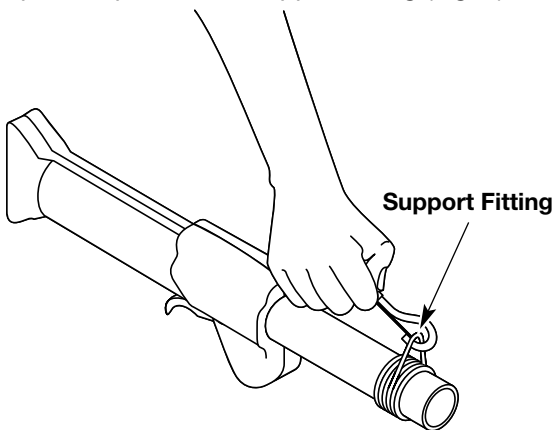

Fig. 2
3. Snap the clip on to the support fitting (Fig. 2).